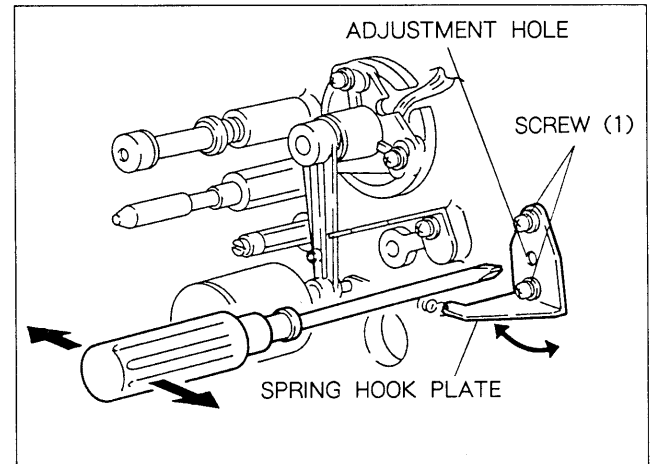

Fig. 9-2-8. Tension Arm Spring Position Adjustment
- (1) Clean the mounting hole of the weight tool shown in Fig. 9-2-8 with cleaning piece.
- (2) Fix the weight tool to the tension regulator guide with care not to scratch the guide section.
- (3) Move the weight lightly right and left and stop it. Check that the voltage at TP22 on the SV-90 board is within the specification.
- (1) Loosen the two screws (1) until the spring holder shown in Fig. 9-2-8 can be moved lightly.
- (2) Insert the tip of the phillips screwdriver into the adjustment hole of the spring holder, move the screwdriver right and left and adjust the position so that the voltage at TP22 on the SV-90 board meet the specification.
- (3) Carefully tighten the two screws (1) securely without changing the position of the spring holder.
- (4) Check the voltage at TP22 on the SV-90 board again so that it is within the specification.
- (5) Carefully remove the weight tool without scratching the guide.